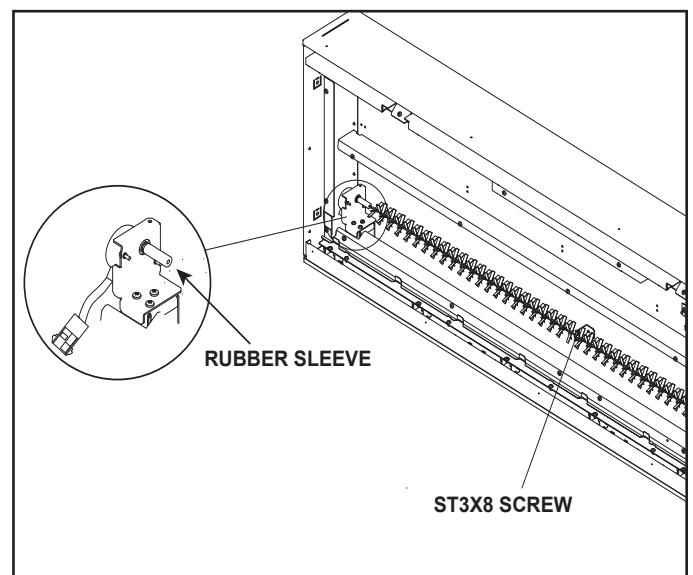

Figure 21 Rotisserie Removal
1. Remove one (1) ST3X8 screw on the Rotisserie support bracket. See Figure 21.